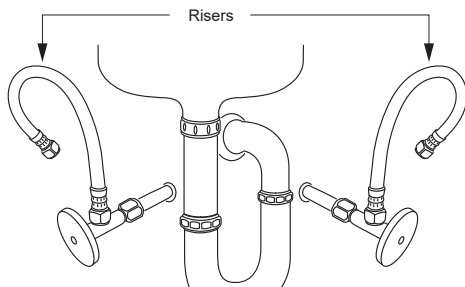

Fig. 2 Disconnect the risers before installing the thermal bypass valve
2. Disconnect the risers; see fig. 2.